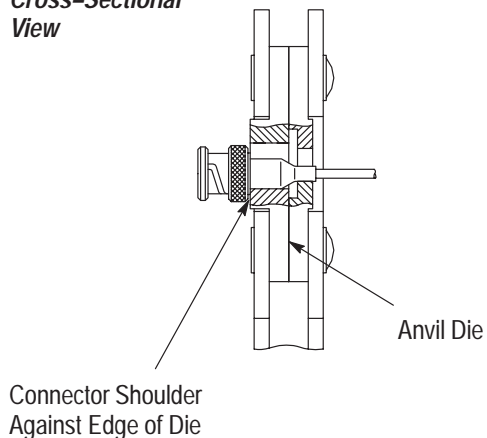

Figure 4
##### 4.2. Ferrule (Figure 4)
3. Place the ferrule in the crimping chamber on the anvil die so that the shoulder of the connector body is against the edge of the die. Refer to Figure 4.